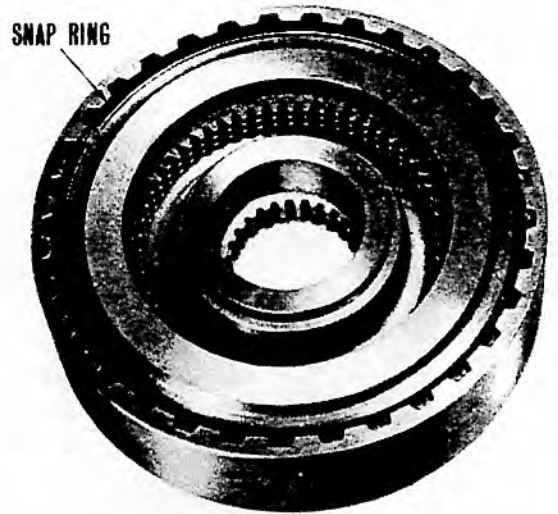

FIGURE 33. CLUTCH ASSEMBLY REBUILT
6. Replace retainer plate and snap ring (Figure 33). Refit input overdrive pinion to clutch assembly.